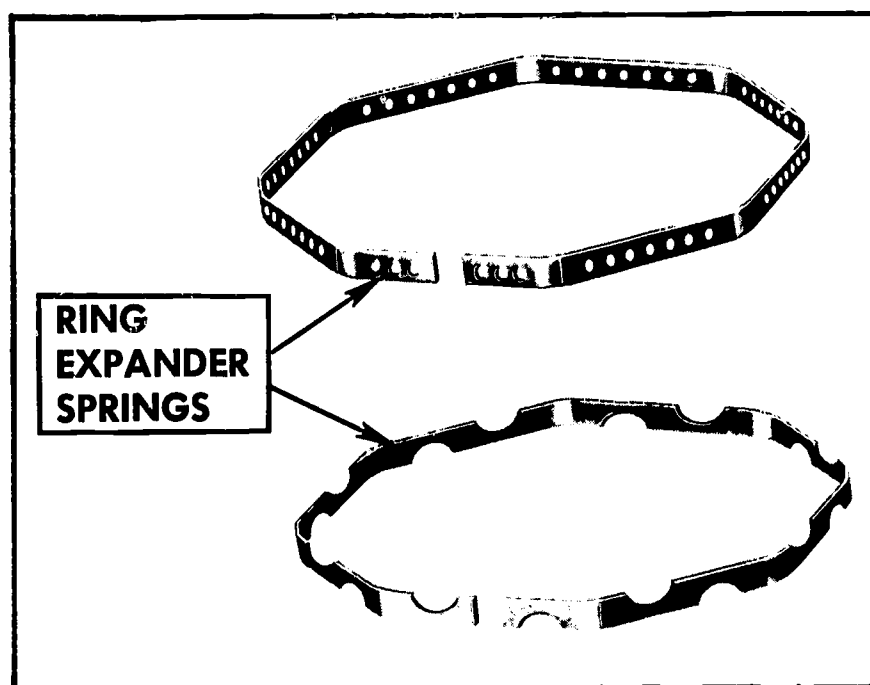

FIGURE 237. Expander springs can be placed under oil-control rings.
- **Oil-control rings** (Figure 236c). These are located below the compression rings. They regulate the amount of oil going to the compression rings and cylinder walls. Sometimes an additional expander spring is placed under the oil-control ring to help maintain its tension as it wears (Figure 237). The expander spring also helps the oil ring to take the shape of a slightly distorted cylinder wall.